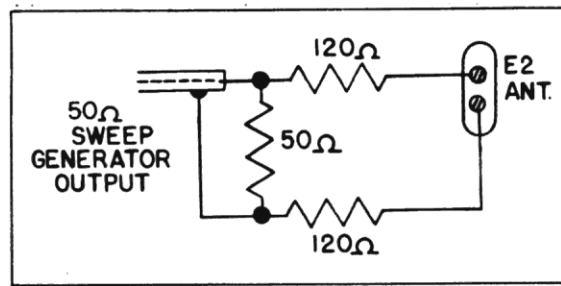

Figure No. 1. Sweep Generator Balanced Output
5. Connect the sweep generator to the antenna input terminals. If the sweep generator is terminated in a 50 ohm single-ended output, the necessary balanced output may be obtained by installing a matching network as shown in Figure No. 1.